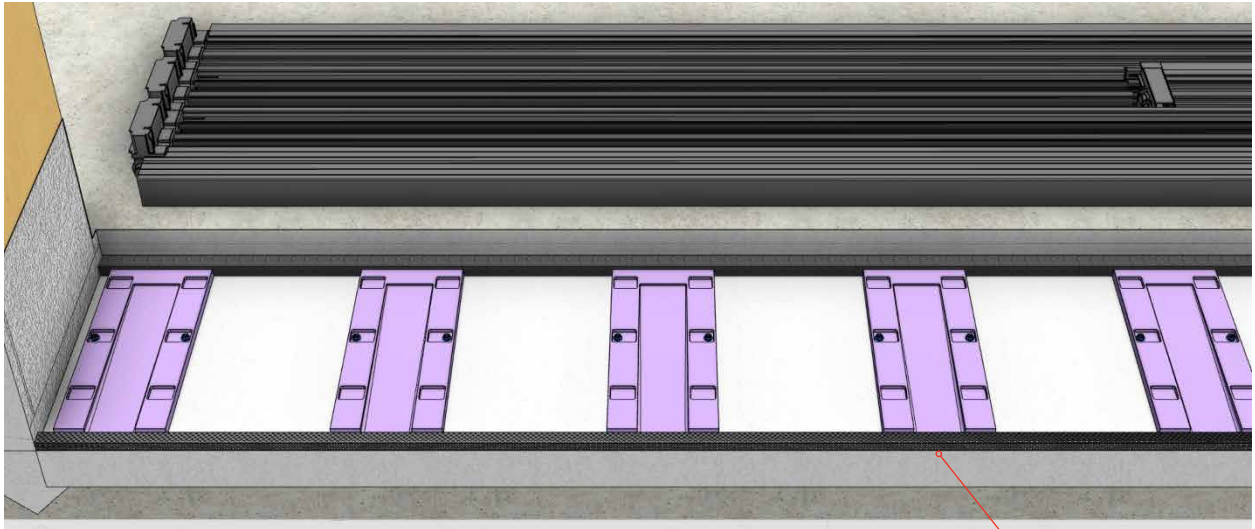

Fig 12
- Peel the paper backing from the reticulated foam and stick it directly onto the sill pan as shown in Figures 12 and 13.